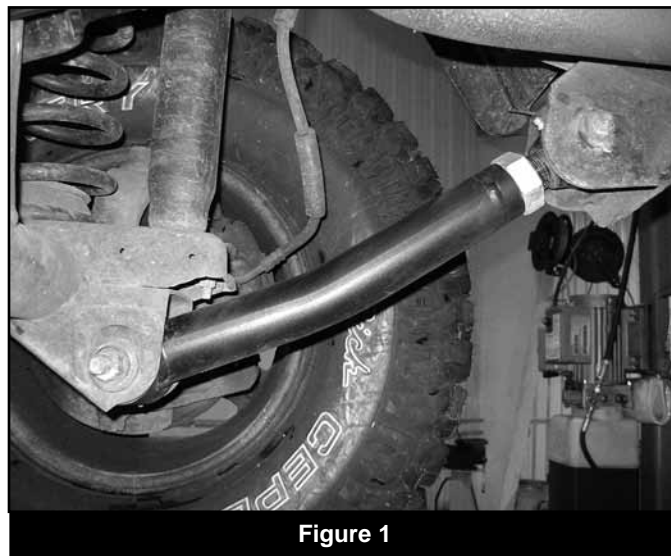

Figure 1
8. Using the OE hardware, install the rubber control arm end in the axle with the bend down for axle mount clearance. The flex end mounts to the frame with the grease fitting up. (Figure 1). Torque flex end hardware to 130 ft-lbs. Leave hardware at the axle loose. It will be tightened with the vehicle at ride height.